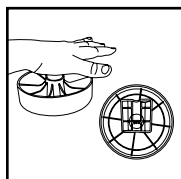

FIGURE 10
13. Place assembled wheel on hard flat surface. Apply pressure to snap assembly together. **FIGURE 10.**